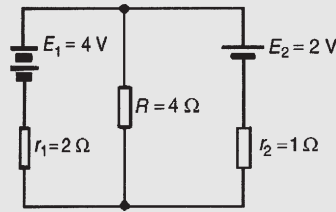

Figure 13.16
**Problem 5.** Fig. 13.16 shows a circuit containing two sources of e.m.f., each with their internal resistance. Determine the current in each branch of the network by using the superposition theorem.